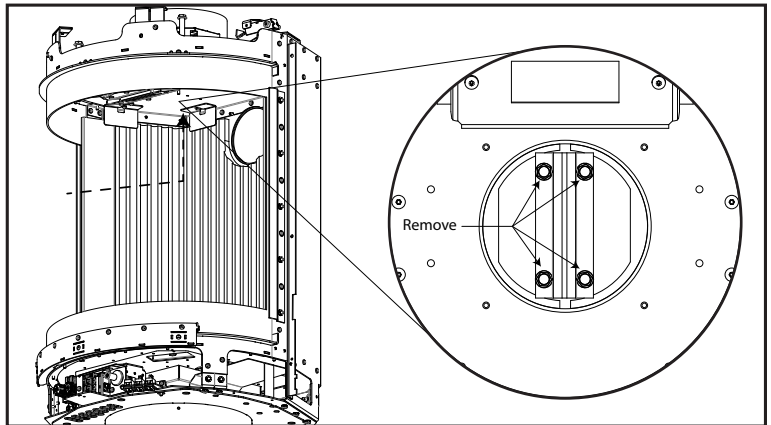

Figure 67: Restrictor Plate Removal
5. Rotate the restrictor disk by hand from inside the firebox until the four (4) screw heads are exposed; remove them using a 5/16" socket (see Figure 67). The finger catch can be loosened and moved if it is inhibiting the movement of the restrictor.